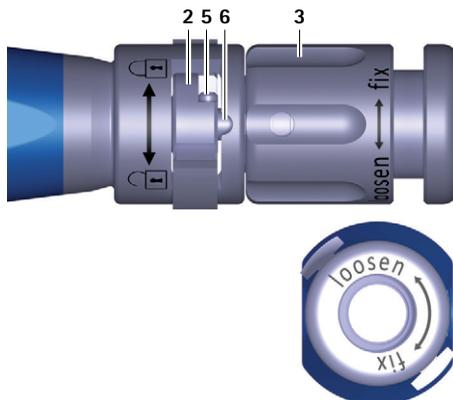

Fig. 1 Close-up view of the insertion instrument, switch open
- ▶ Turn the rotary nut 3 on the insertion instrument A counterclockwise ("loosen" direction) to push the rod 6 forward, see Fig. 1.
- ▶ Turn the switch 2 to the left (↶ direction), see Fig. 1.
- ▶ Turn the switch **2** to the left (← direction), see Fig. 1.
- ▶ Check the position for coupling the insertion instrument **A**, see Fig. 1.
- ▶ Turn the switch **2** to the left (↺ direction), see Fig. 1.
- ▶ Turn the rotary nut **3** counterclockwise ("loosen" direction) to push the rod **6** forward, see Fig. 1.